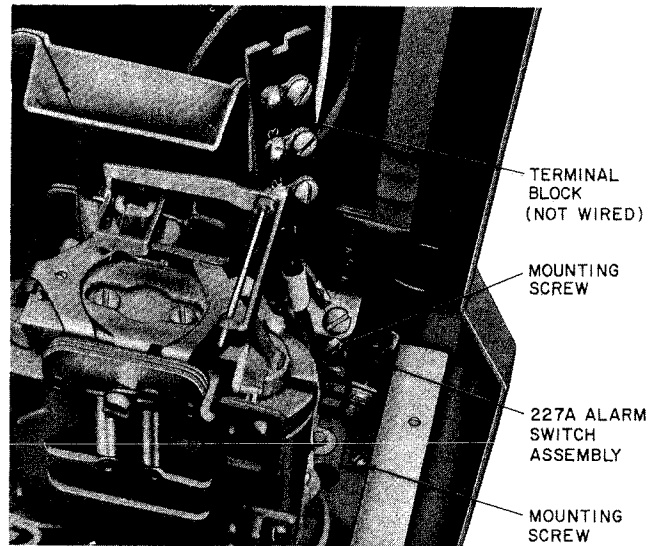

Fig. 3—227A Alarm Switch Assembly Installed
- 2.08 Install the 227A alarm switch assembly as shown in Fig. 3.